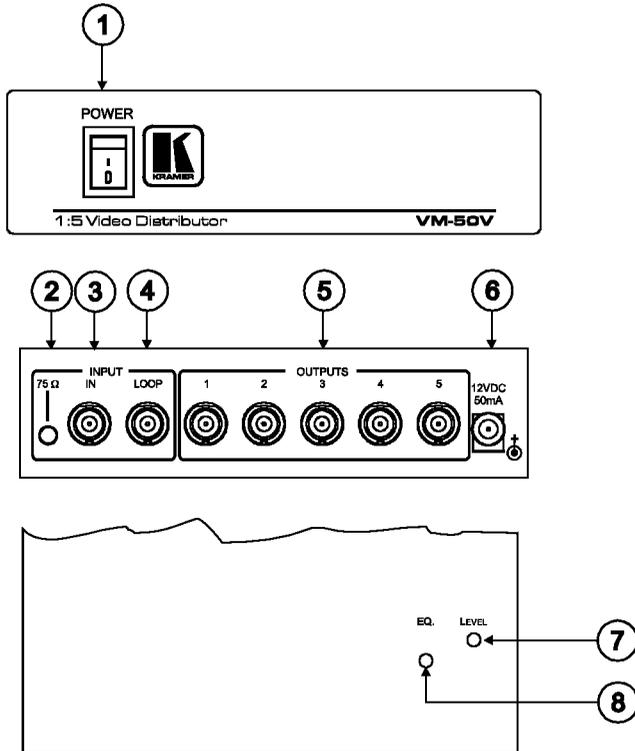

Figure 4: VM-50V 1:5 Video Distributor
Figure 4 and Table 4 define the VM-50V.
6. If needed, adjust the LEVEL and EQ controls on the underside of the unit (see Figure 4).